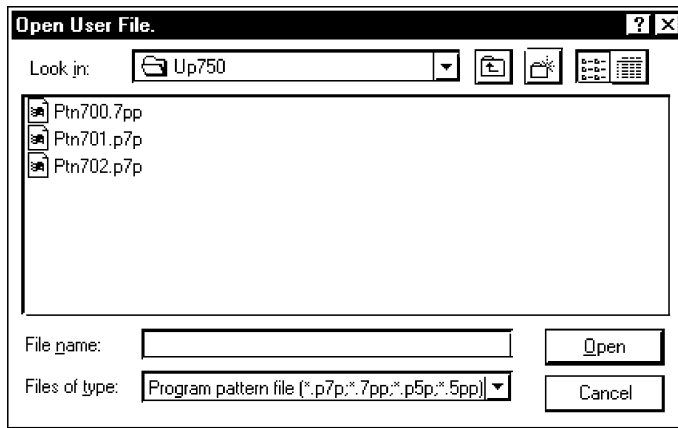

Figure 10.2.1 Open User File Dialog Box
The Open User File dialog box (Figure 10.2.1) opens.
- (1) On the menu bar, click **File** then choose **Open program pattern data**. The Open User File dialog box (Figure 10.2.1) opens.
- (2) Click the **Look in** box.
- (3) From the list thus appearing, locate the folder in which the desired program pattern setting file resides and select it.
- (4) The files contained in the folder you selected are listed in the box beneath. Click to select the program pattern data and click **Open**. When the LL100 has successfully finished reading the program pattern settings from a file, a dialog box displaying “Program pattern data has been loaded” message appears.
- (5) Click **OK**.
- (6) Go on to Section 10.3.2.